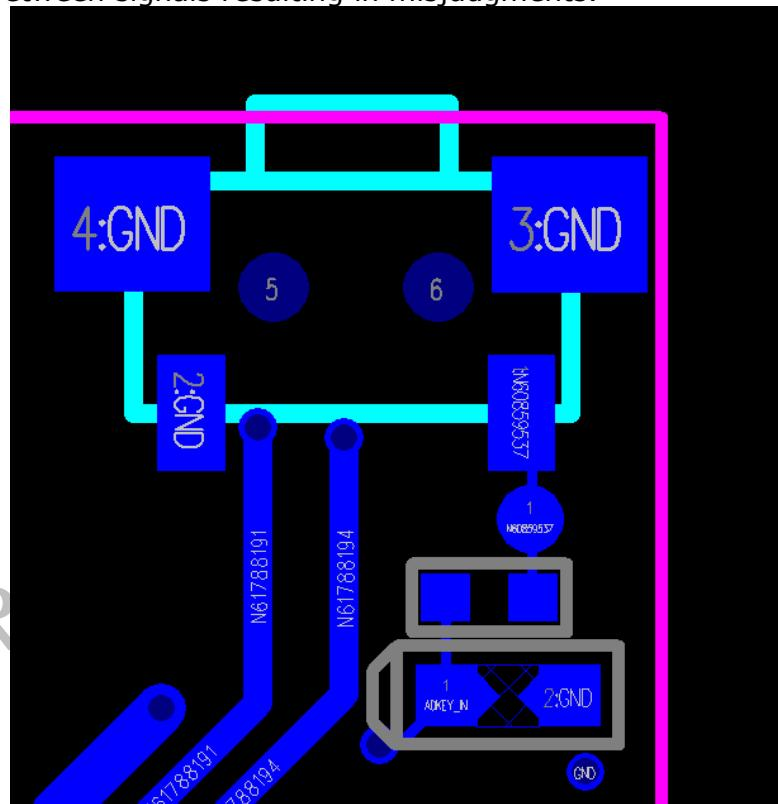

Figure 12-2
- Please place ESD protective part close to the key to play the roles of ESD protection, shown as Figure 12-2;